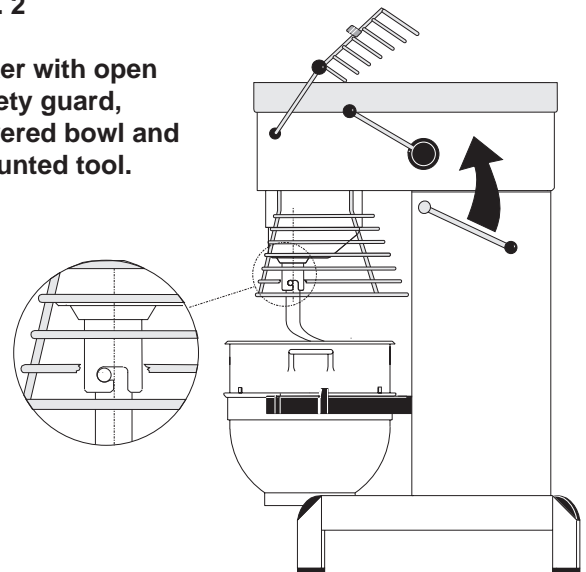

Fig. 3
- A) Open the safety guard and place the bowl in the bowl arms. **OBS:** The bowl arms must be in lowest position and the bowl must be pushed all the way into the bowl arms. The bowl's "centre ear" must be turned in towards the mixer (**fig.2 and fig.3**).